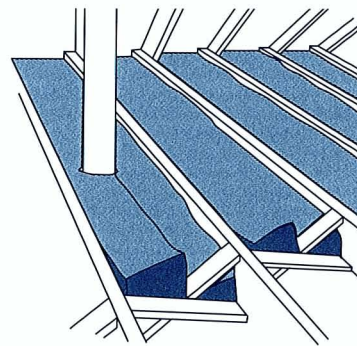

Figure 10: Install insulation snugly around cross braces and protruding objects that don't produce heat.
- Lay insulation in long runs first, using leftover pieces for shorter spaces. Cut ends of batts or blankets to fit snugly around cross bracing and around plumbing stacks (Fig. 10).